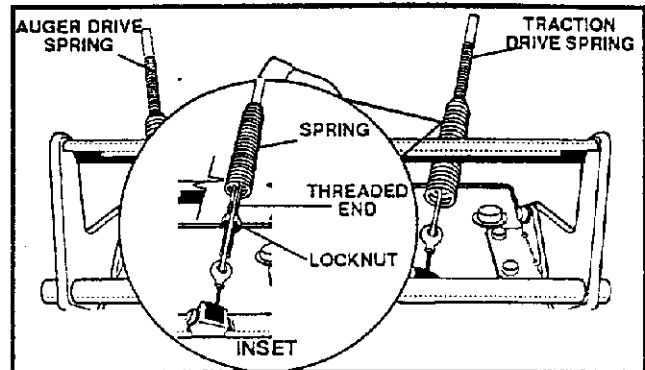

FIG. 4-SERV & ADJ
- Push the cable through the spring (See FIG. 4-SERV & ADJ) to expose the threaded portion of the cable.
- Hold the square end of the threaded portion with pliers and adjust the locknut in until the excess slack is removed (See FIG. 4-SERV & ADJ Inset).